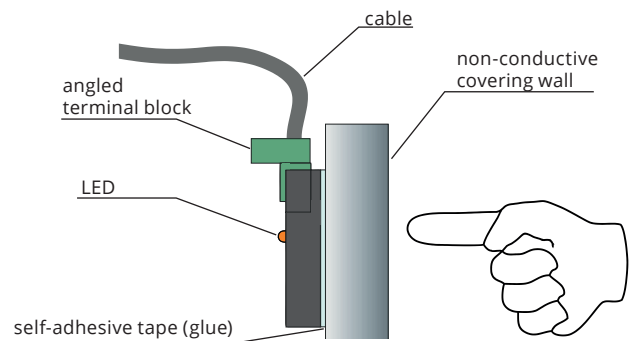

Fig. 1: CTS-41\_0 sensor installation
2. Install the sensor on the back side of the covering wall in a place which is intended for finger contact (see Fig. 1 and 2). The sensor can be installed behind a wall of an object made of non-conductive material (such as wood, chipboard, glass, ceramics, plasterboard, etc.). Maximum thickness of the covering wall is 30 mm.